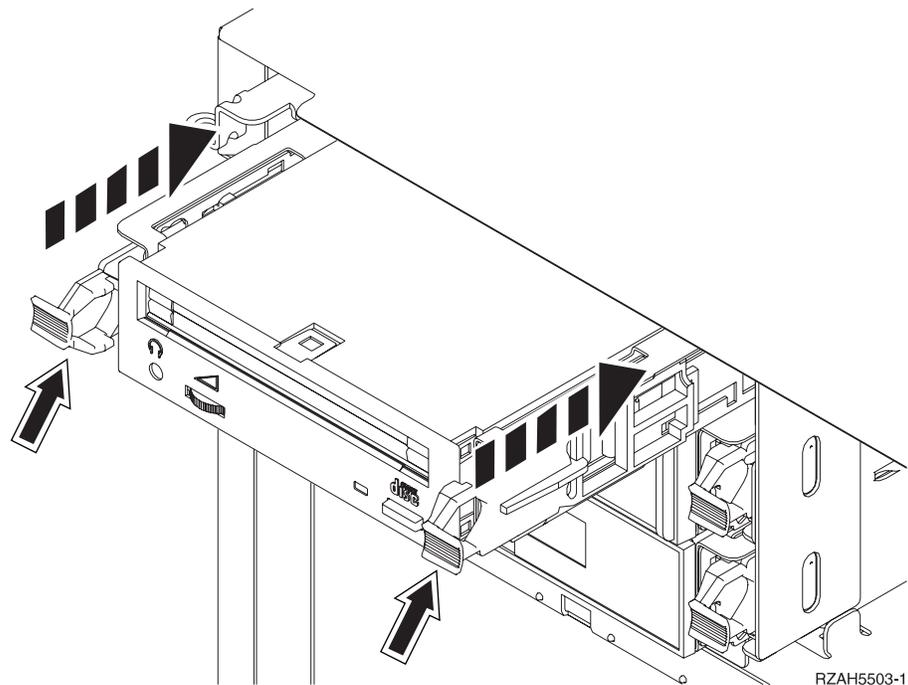

Figure 3. Installing removable media device
- ___ 20. Refer to Figure 3 and support the bottom of the removable media device as you slide it half way into the selected position. Do not push it any further.